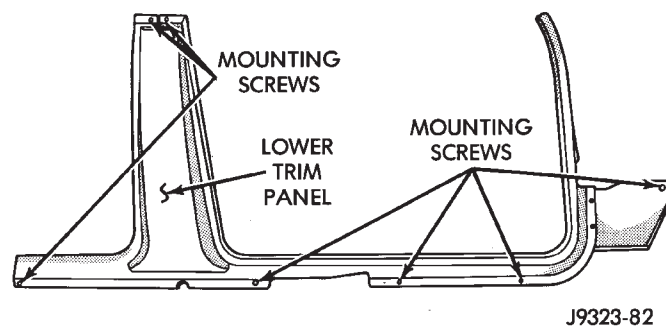

Fig. 6 B-Pillar Trim Panel
- (1) Remove retaining screws along bottom edge of trim panel (Fig. 6).